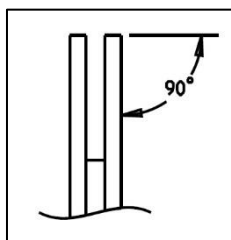

FIGURE 4
- 3.4.2. As the bar rails wear down, sharp burrs are formed on the edge of the rails, which are typically referred to as wire edges. If ignored, wire edges mushroom over and affect cutting performance. Ensure that the bar rails are dressed squarely as shown in Figure 4 with the wire edges removed.